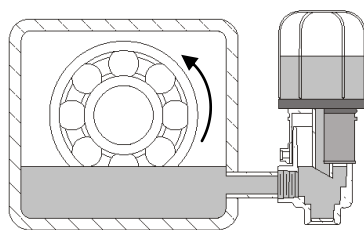

Figure 6. Constant Level Oiler
To change oil, unscrew frame drain plug (424) in bearing housing (19) and drain oil. Flush bearing housing with petrol or benzol. Slowly rotate the shaft by hand during flushing. Replace frame drain plug and fill the bearing housing with SAE #20 (oil to be free of acid and resin). Fill bearing housing until oil can be seen in the constant level oiler. Fill reservoir with oil, place thumb over spout, invert and screw reservoir into upper casting. Allow reservoir to empty, filling the bearing housing (Figure 6). Several fillings of the reservoir may be required before the actual oil level is reached. Never use lower casting only as a fill spout, always fill thru reservoir. When oil level is reached, no more oil will run out of the reservoir bottle. When oil level is reached tighten the three setscrews on the side of the upper oiler. The constant level oiler (125) should be topped up as required during operation.